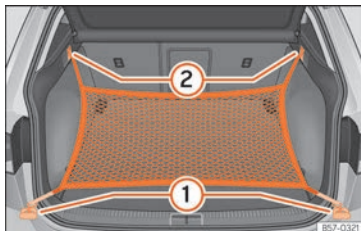

Fig. 140 In the luggage compartment: rings ① and hooks ② for attaching the net bag.
- Secure the short net hooks to the fastening rings »» Fig. 140 ① »» ⚠. The bag zip should be facing upwards.
- Secure the straps in the bag hooks ②.